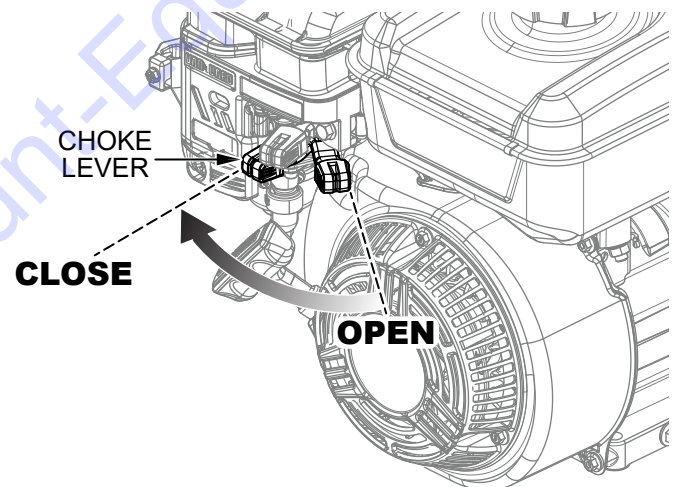

Figure 30. Choke Lever (Closed)
4. If starting a cold engine, place the engine choke lever in the **CLOSED** position (Figure 30).